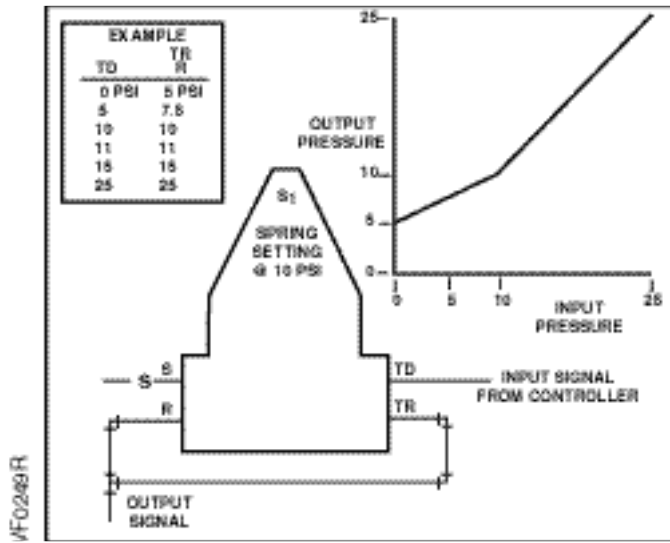

Figure 10. Characterized Min. Pressure Relay.
- Characterized minimum pressure relay (See Figure 10).
Initial input from controller will increase relay output above minimum at a 2/1 ratio until relay output is twice the minimum value. A further increase in input pressure will increase the output an equal amount (1/1 ratio) (Figure 10).